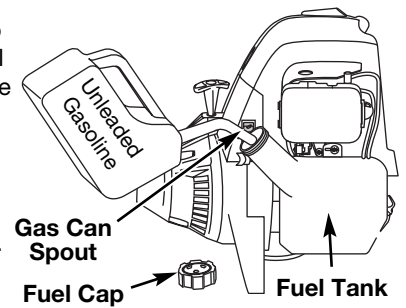
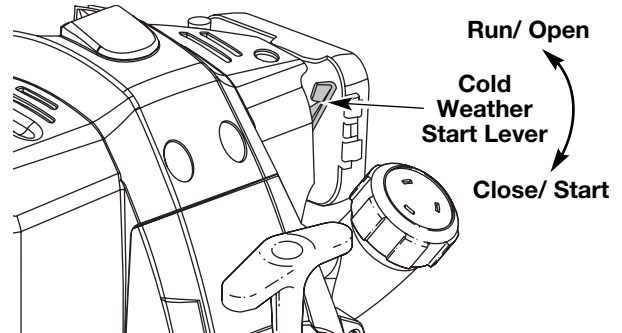

Fig. 7
Fig. 9
- Use the blower to clean around buildings, walls, and fences (Figs. 7 & 8), and around trees, shrubs, and flower beds (Fig. 9).
1. Remove the fuel cap (Fig. 7).
2. Place the gas container's spout into the fill hole on the fuel tank (Fig. 7) and fill the tank.
IF COLD... For cold weather conditions (below 40°F), flip the Cold Weather Start Lever (Fig. 9) down to the start/closed position and continue to step 4. DO NOT flip this lever down if the temperature is above 40°F.